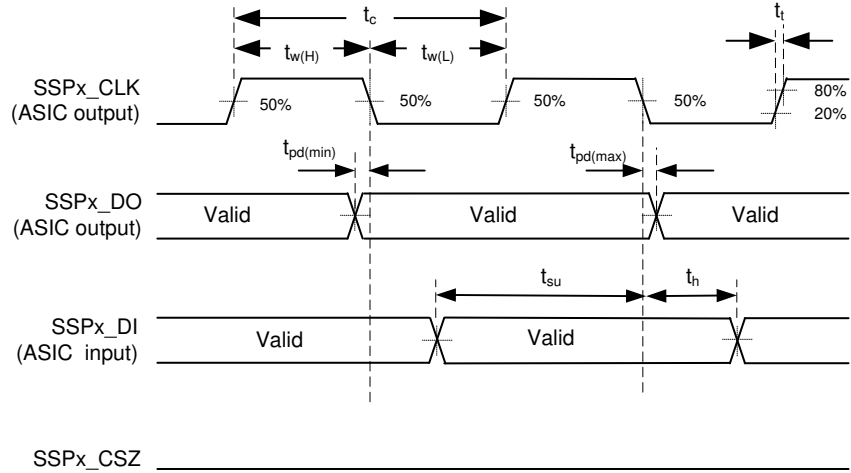
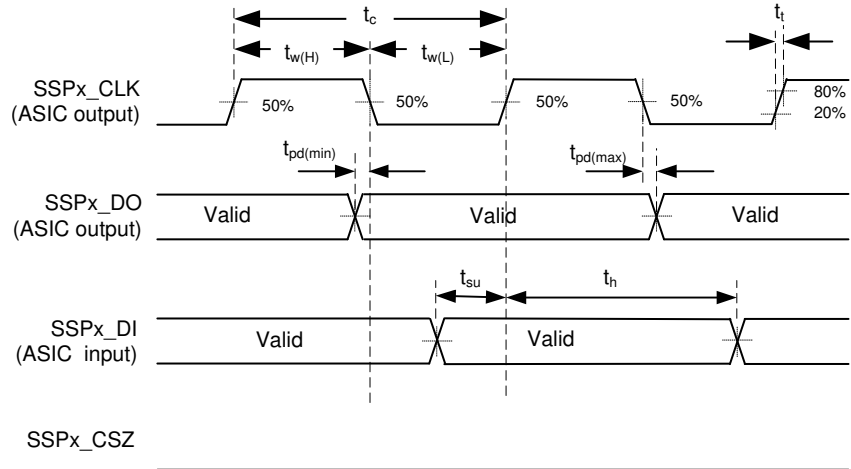

图 5-10. Synchronous Serial Port Interface—Master (Modes 0/3)
图 5-11. Synchronous Serial Port Interface—Slave (Modes 0/3)
- (1) The SSP is configured into four different modes of operation by the controller firmware. These modes are shown in 表 5-2, 图 5-10, and 图 5-11.
- (2) SPI Modes 0 and 3
- (3) SPI Modes 1 and 2